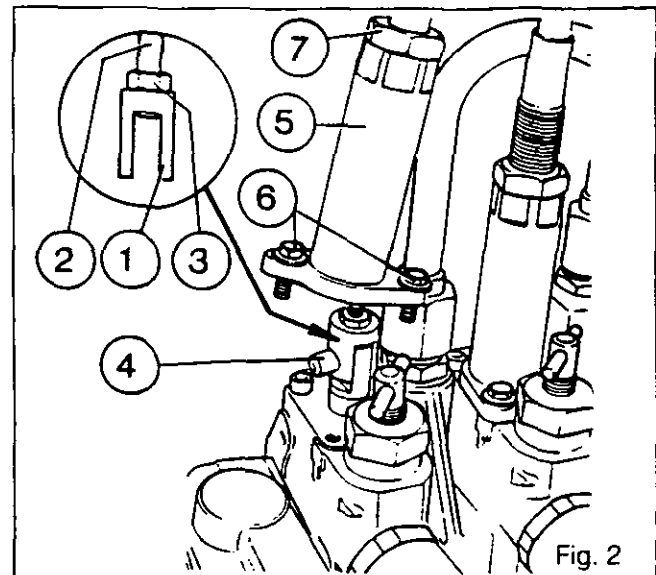

Fig. 2
Unscrew nuts (7), screws (6) and couplers (5). On each spool valve, take out pin (4) linking the clevis to the spool (Fig.2).
13. Slide pin **(4)** into each clevis **(1)**(Fig.2).
**Note: Check that the valve spools are in neutral position. Partially screw couplers (5) on the first and second spool valves and fit screws (6) without tightening.**